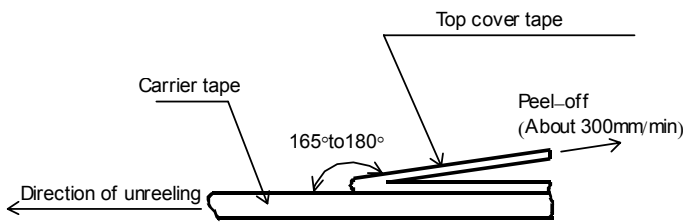
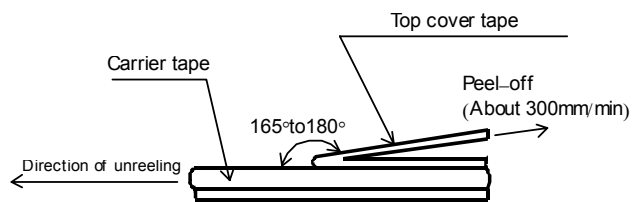

Figure-8
Figure-9
- 5). The peel strength of the top cover tape shall be within 0.1N to 0.5N on the test method as shown in the following RNC06: Figure-8, RNC20, 32: Figure-9.